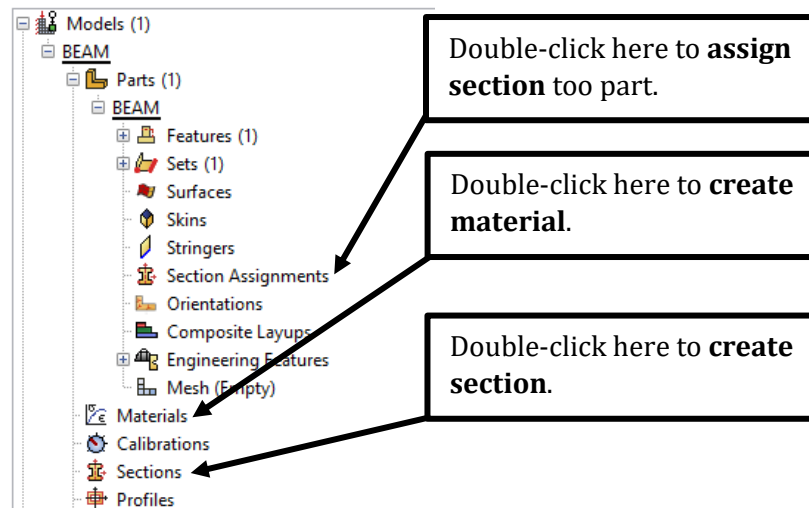

Figure 2-8 – The Model Tree.
1. In the **Model Tree**, double-click **Materials** to create a new material in the model BEAM. See Figure 2-8. Notice that Abaqus/CAE switches to the Property module and the **Edit Material** dialog box appears.
1. In the Model Tree, double-click **Sections** to create a new section in the model BEAM. See Figure 2-8.
1. In the Model Tree, expand the branch for the part **Beam**. Double-click **Section Assignments** to assign a section to the part Beam, as shown in Figure 2-8. Abaqus/CAE displays prompts in the prompt area to guide you through the procedure.